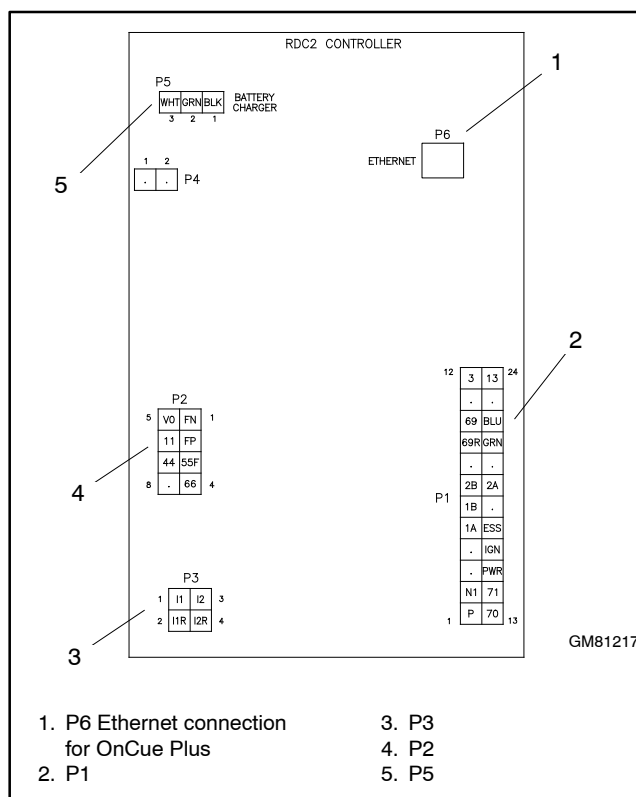

Figure 12 Controller Connections
7. Note the connections on the back of the controller, and then disconnect all harnesses and leads from the controller. See Figure 12 or the wiring diagram in the generator installation manual.
10. Install the controller onto the junction box using the two (2) screws removed in step 6.